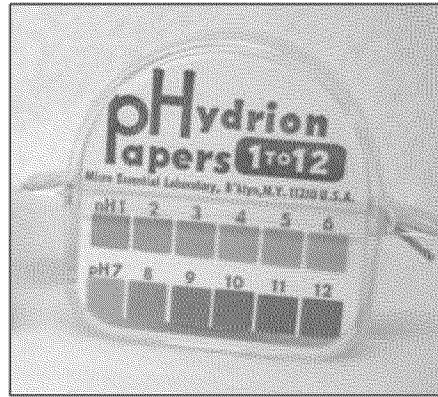

Figure 3. Example pH Paper Color Code
- (1) Use a pipette to withdraw a portion of the sample and place it on a strip of pH paper.
- (2) Compare the color change to the provided color code. An example color code is shown in Figure 3.